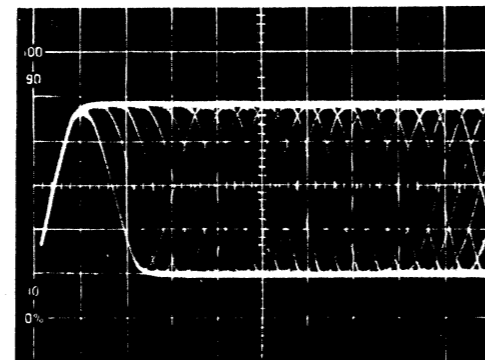

Fig: 4-10. RF signal
4. Connect the oscilloscope to TP107 of SL-P7 or CN109 pin ③ / RF test pin of SL-P8.
8. Confirm if RF signal is present as shown in figure 4-10. If not, proceed to the next step.